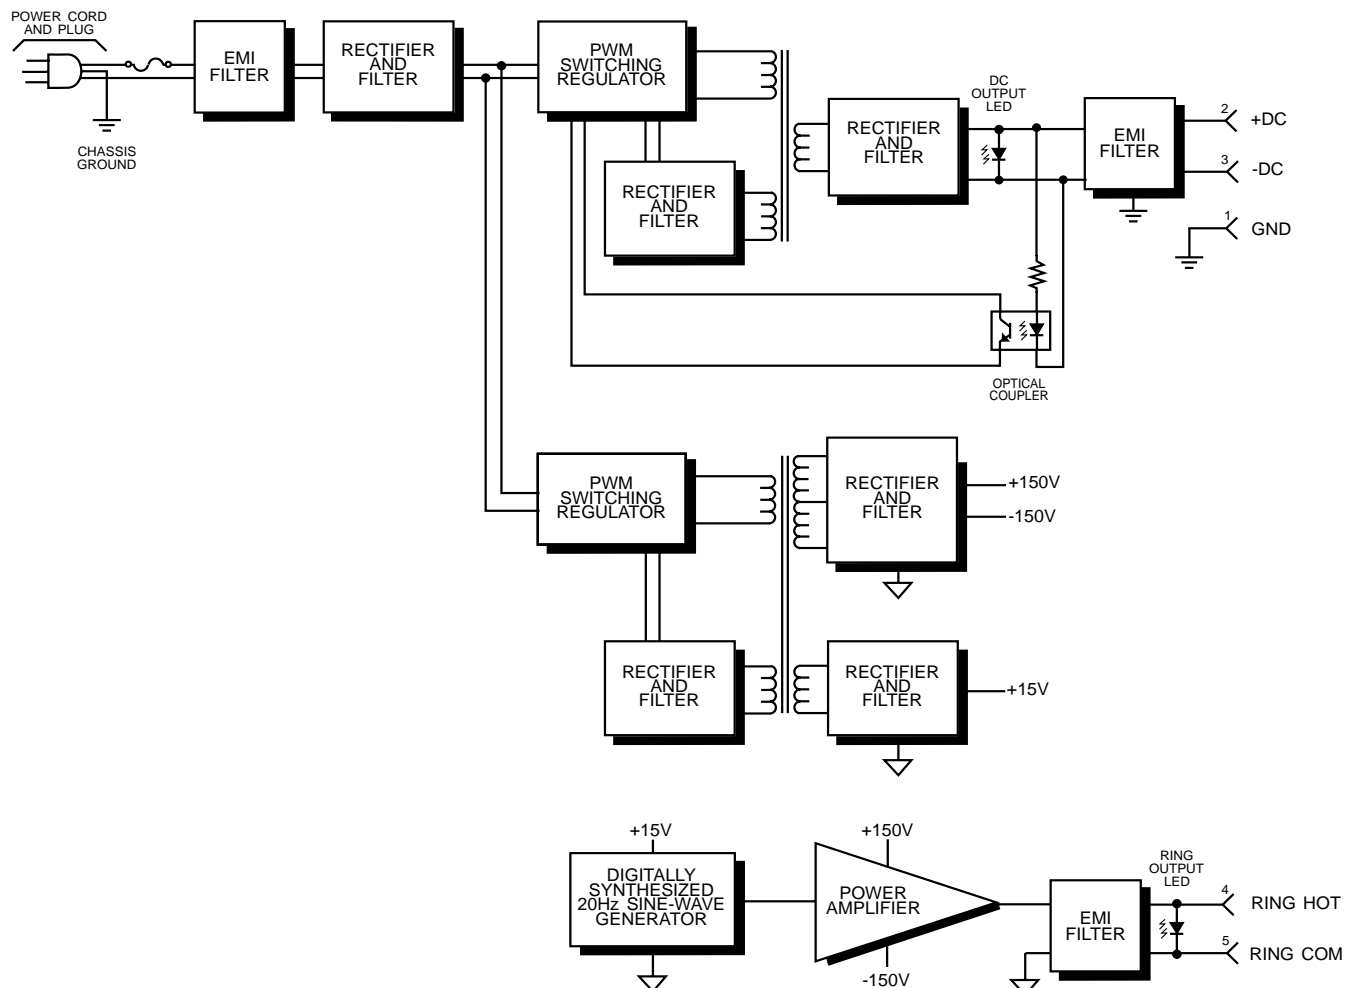

Figure 5 Model 702 Power Supply block diagram.
5.1 GENERAL The circuit description is intended to familiarize you with the Model 702 for engineering and applications use. Repairs to the unit should not be attempted as they will expose you to dangerous voltage levels. Please refer to the block diagram, Figure 5, when reading this technical description.